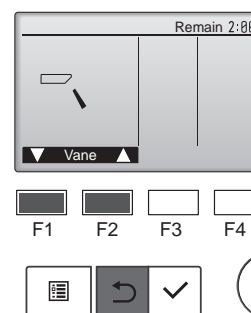

Fig. 7-4
- ② Press the [SELECT] button to display the Vane operation screen, and then press the [F1] and [F2] buttons to check the auto vane. (Fig. 7-4)